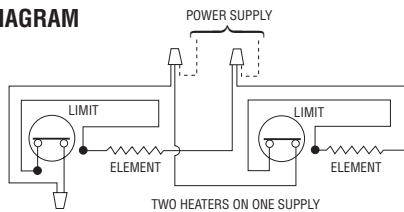

Figure 10. Dual Heater Wiring Connections
6. Wire heaters as shown in Wiring Diagram, Figure 10.